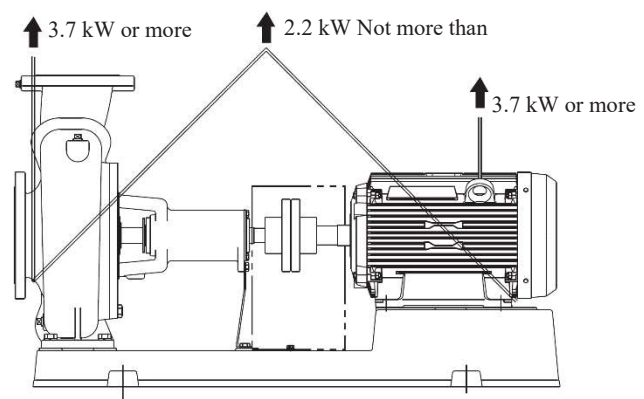

Fig. 1
- (1) When moving or carrying in, hang a sling such as a nylon ring on the inflow side flange and the motor as shown in Fig. 1.
- (2) Install the product horizontally and fix it firmly with the foundation bolts.